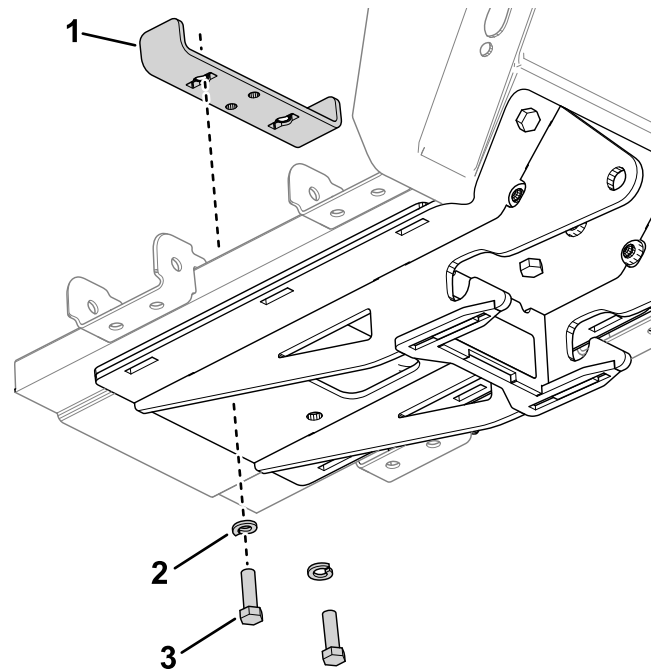

**Figure 3**
8. Use 3 bolts, 3 nuts, and a backer plate to position and loosely attach the skid plate (**Figure 3**).